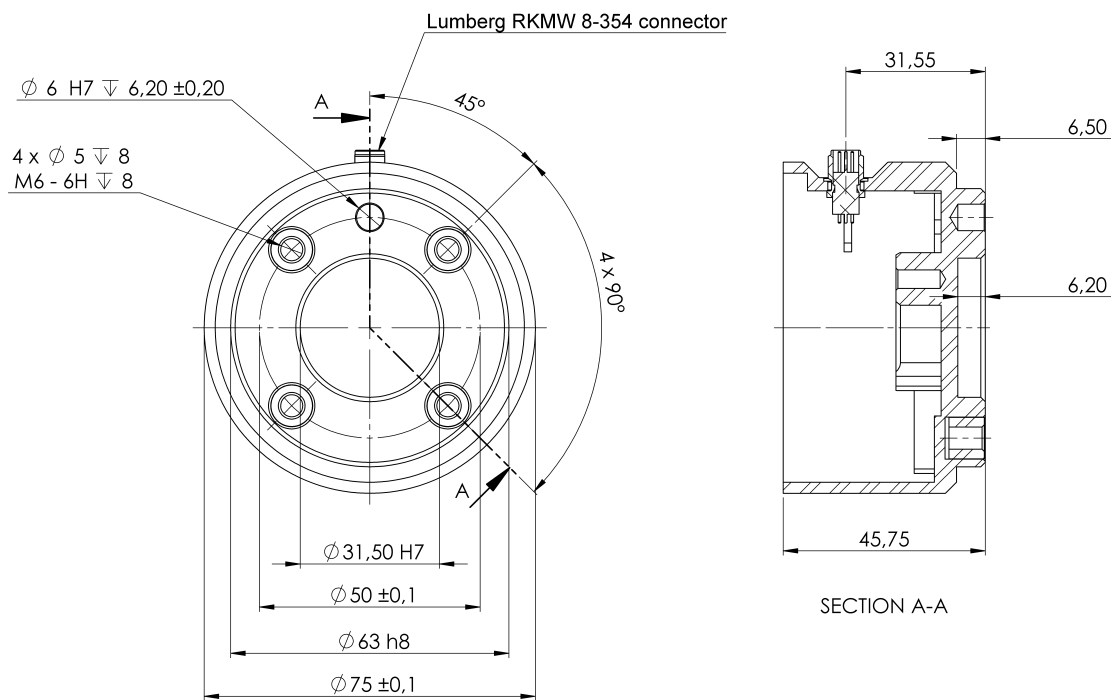

Figure 4.2: The tool output flange (ISO 9409-1-50-4-M6) is where the tool is mounted at the tip of the robot. All measures are in mm.
**Tool** The robot tool flange has four M6 thread holes for attaching a tool to the robot. The M6 bolts must be tightened with 8 N m, strength class 8.8. For accurate tool repositioning, use a pin in the  $\varnothing 6$  hole provided. Figure 4.2 shows dimensions and hole pattern of the tool flange. It is recommended to use a radially slotted hole for the pin to avoid over-constraining, while keeping precise position. Do not use bolts that extend beyond 8mm to mount the tool. Very long M6 bolts can press against the bottom of the tool flange and short circuit the robot.